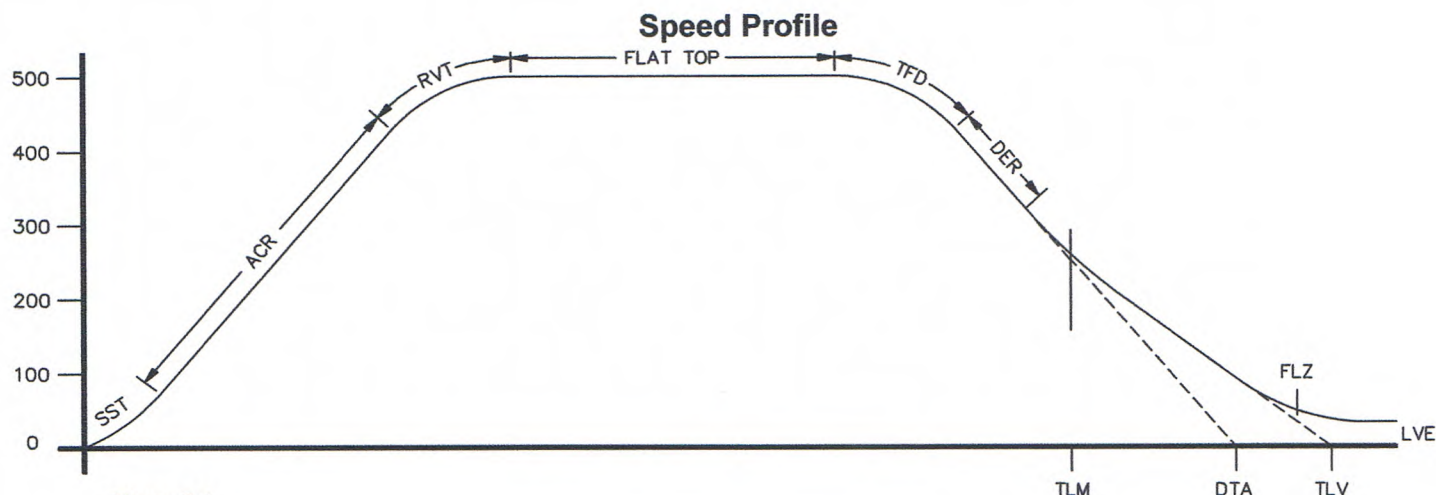

Figure 7-4
2. Using the parameters listed in **Figure 7-4**, adjust the "S Curve" profile for the desired acceleration and deceleration ride profile.